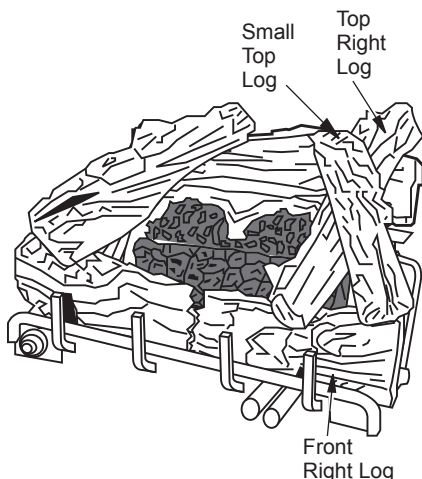

Figure 27 - Installing Log
- Place the small top right log as shown in Figure 27. The bottom of the log is shaped to fit onto the recessed areas of the top right log and the front right log. The recessed areas are painted yellow.